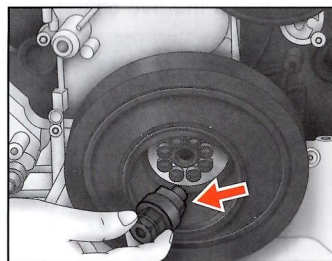

Fig.16
- (1) Install Crankshaft Adjuster (Part No.A) to the centre of the crankshaft pulley. (Fig.16)